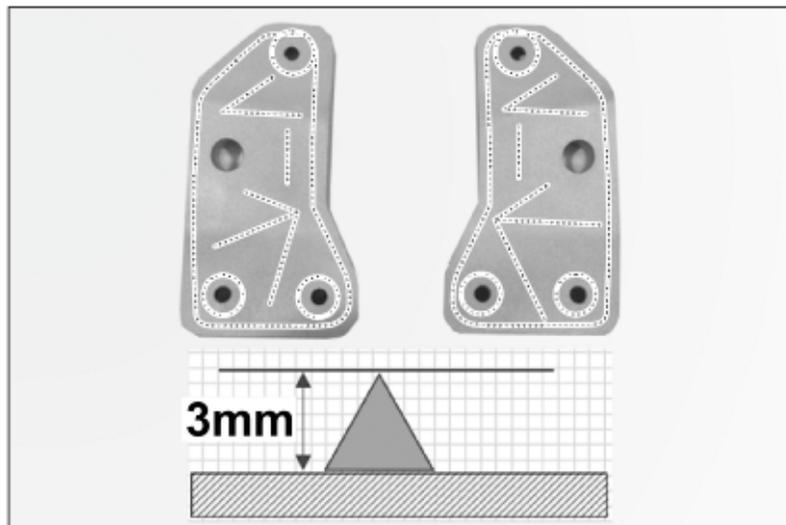

Figure 50
12. – Clean the adhesive surfaces (underside) on the stiffeners with isopropanol. Apply a triangular adhesive bead 3 mm (0.12 in) high according to the adhesive pattern shown above ⇒ *Figure 50*.